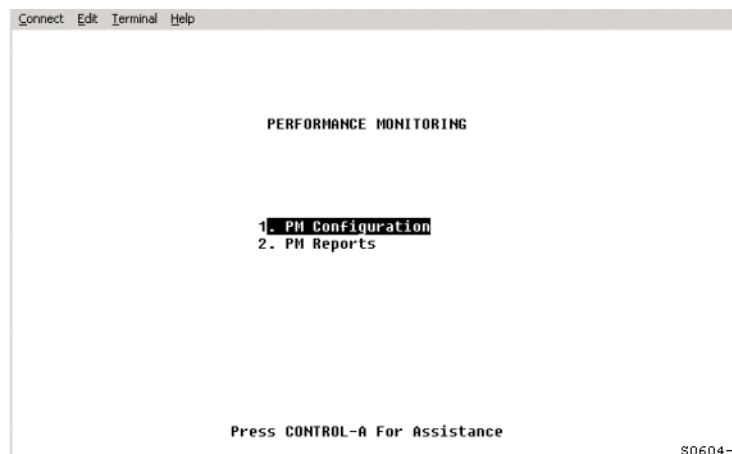

Figure 11. Performance Monitoring Menu
- 1 From the SCU Main Menu, use the arrow keys or number keys to select **7. Performance Monitoring**. Press **ENTER** if using the arrow keys. The Performance Monitoring menu appears (see Figure 11).